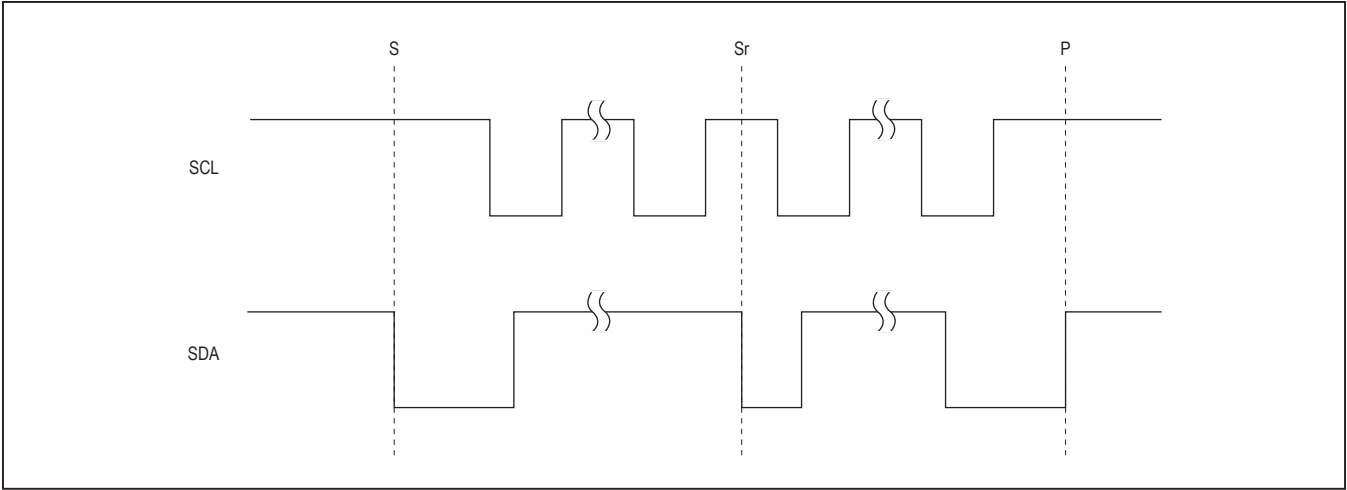

Figure 21. I2C START, STOP, and Repeated START Conditions
condition (P), to relinquish control of the bus, or a Repeated START condition (Sr) to communicate to another I2C slave. See Figure 21.